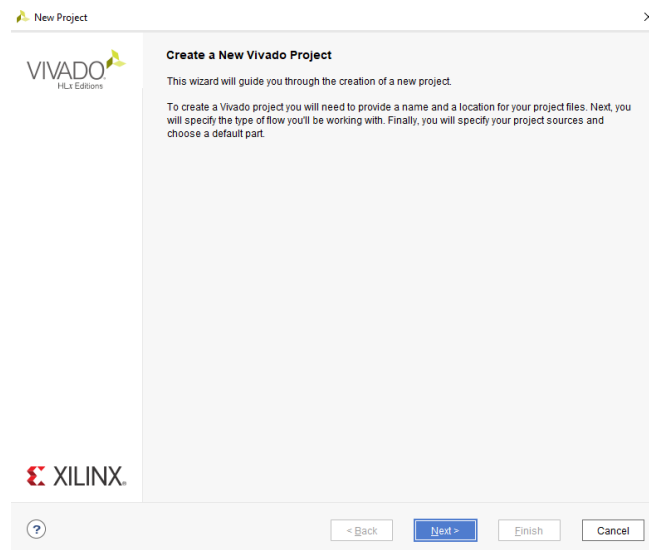

Figure 1: New Project Window
2. A dialog box (see Fig. 1) will open describing the steps you will be taken to create a project. Click "Next" to continue.